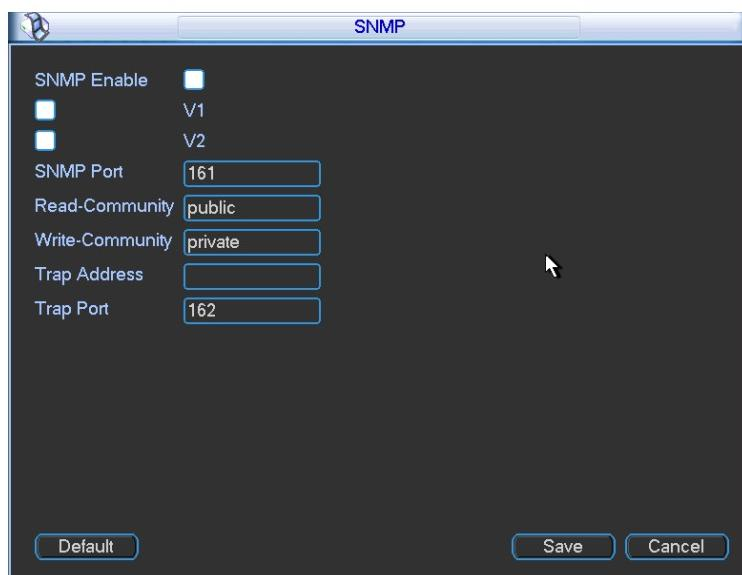

Figure 5-30
You can set in the following interface. See Figure 5-30 .
- In Figure 5-30, check the box to enable the SNMP function. Input the IP address of the PC than is running the software in the Trap address. You can use default setup for the rest items.